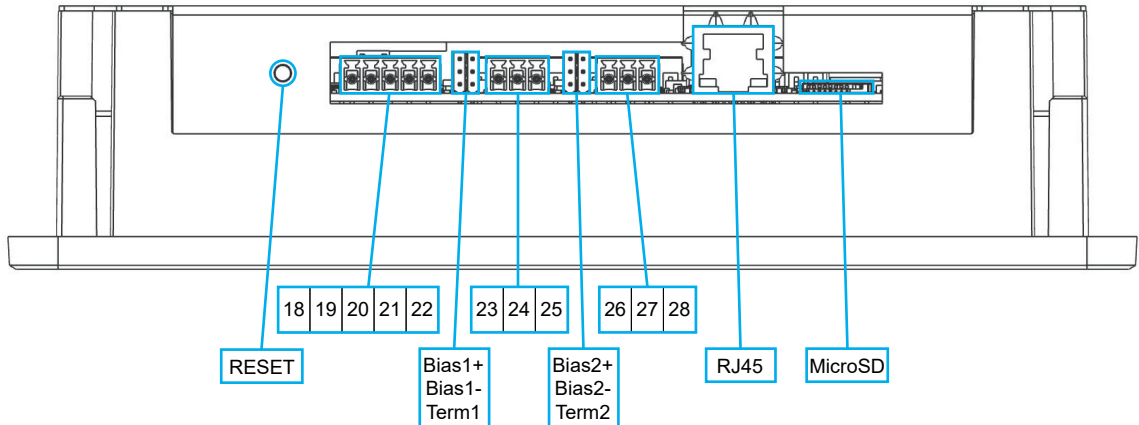

Figure 5
The BlueLinQ Pro has an RS232 port which is designed for modem communication and uses Modbus RTU protocol, see Figure 5 and Table 2. Pin22 (RTS) is the Request To Send, Pin21 (CTS) is the Clear To Send, Pin20 (TX) is the Transmit, Pin19 (RX) is the Receive and Pin18 (V-) is the ground reference. When connecting use suitable sized single stranded wire for the connections1. If operating in an electrically noisy environment a shielded cable is recommended. The port supports standard baud rates from 300 to 230400 and has option to include parity check.
This BlueLinQ Pro has two isolated RS485 ports and uses Modbus RTU protocol, see Figure 5 and Table 2. Pin23 and Pin24 are the differential communication lines and Pin25 is used for shielding for RS485\_1. Pin26 and Pin27 are the differential communication lines and Pin28 is used for shielding for RS485\_2. Use two core shielded twisted pair with suitable sized wire1.
The communication termination jumpers, Term2 for RS485\_1 and Term3 for RS485\_2, are populated by default. If the unit is at either end of the communication network, then the jumper must be populated, otherwise remove, see Figure 5.
The BlueLinQ Pro supports an ethernet port on a standard RJ45 connection, see Figure 5 and Table 2 below. In the settings, the user can select between static or dynamic IP-address. By default, the Modbus TCP port is 502.
The BlueLinQ Pro has a slot for a MicroSD memory card of push-push ejector type, see Figure 5 and Table 2 below. It is primarily used to download configuration information, updating firmware and data.
The BlueLinQ Pro reset button is accessed through a small hole, see figure 5 below. To activate place a straightened paperclip or similar into the hole and hold for 10 seconds, this will restore the unit's configuration to factory default.